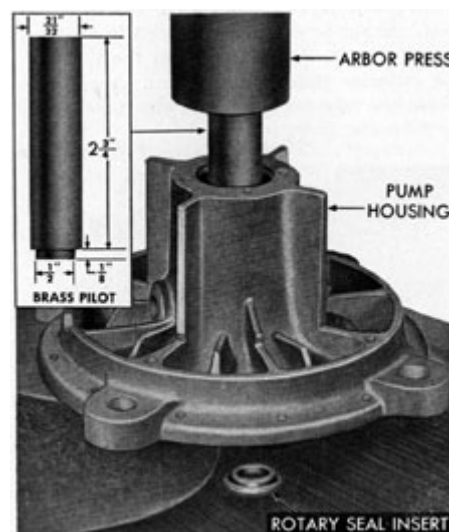

Figure 5-12. Pressing out rotary seal insert.
**5D12. Replacing the seal insert.** (See Figures 5-12 and 5-13.) Place the pump housing on the bed of an arbor press with the large end of the housing downward. Using a special rod as shown in Figure 5-12, press out the seal insert. To install a new seal insert, place the housing on the bed of an arbor press with